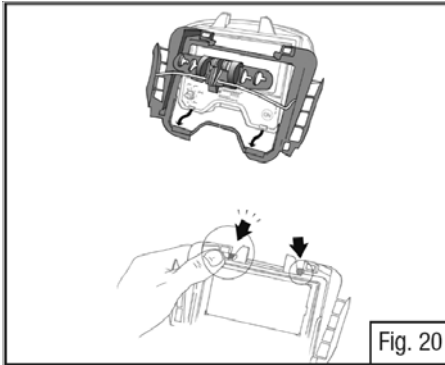

Fig. 20
- To install the lens into the lens holder, first align the lens's two bottom tabs with the two corresponding ridges at the bottom of the lens holder opening (Fig 20). Once both of the slots are seated on the ridges, slowly press together the top of the lens holder with the top of the lens; they will snap together securely.